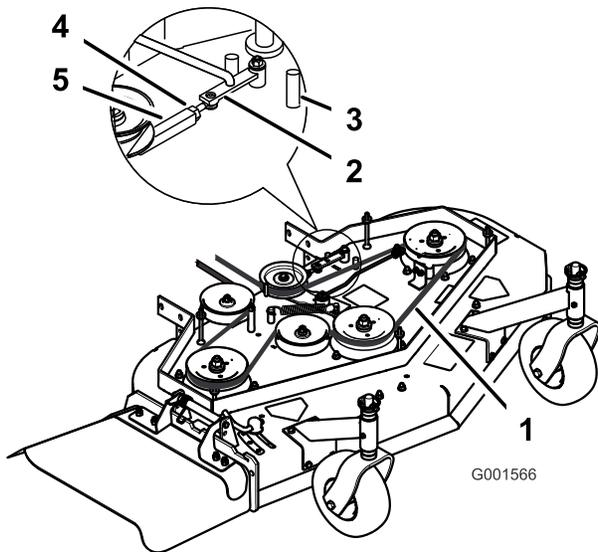

Figure 47
3. Loosen the locknut on the turnbuckle (Figure 47).
4. Rotate the turnbuckle toward the rear of the mower to increase the tension on the belt. Rotate the turnbuckle toward the front of the mower to decrease the tension on the belt (Figure 47).